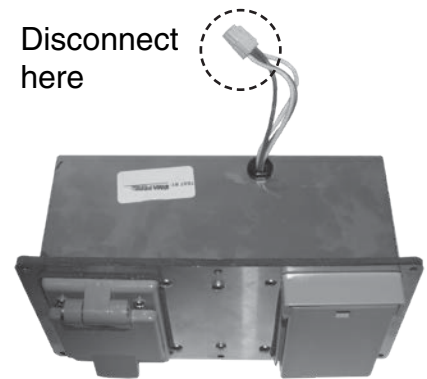

Fig. 37-2 Slightly pull out box and disconnect wire harness
3. Slightly pull out the box to expose the wiring, and disconnect the wire harness (see Fig. 37-2). Completely remove the box from the grill for ease of fuse replacement.